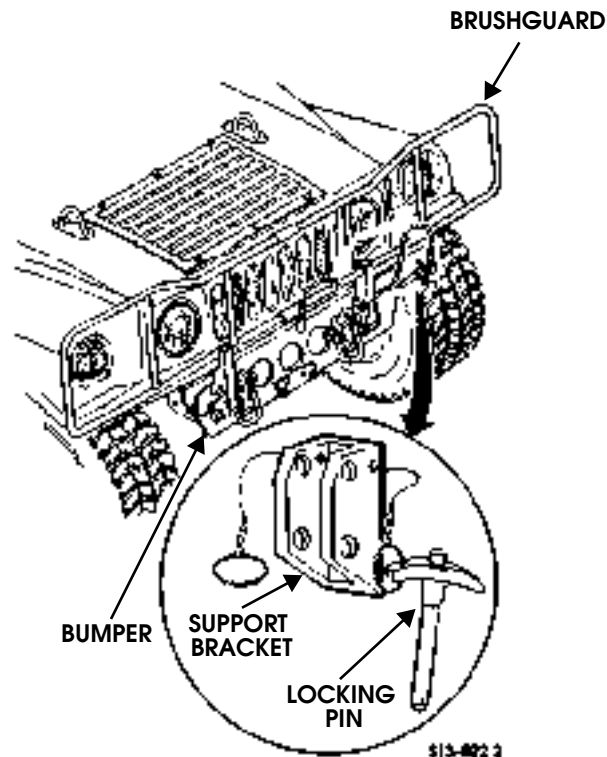

Figure 13-27: Brushguard Assembly
1. Install two support brackets on bumper with four washers, bolts, washers, and locknuts. Tighten locknuts to 68 lb-ft (92 N•m) (Figure 13-27).